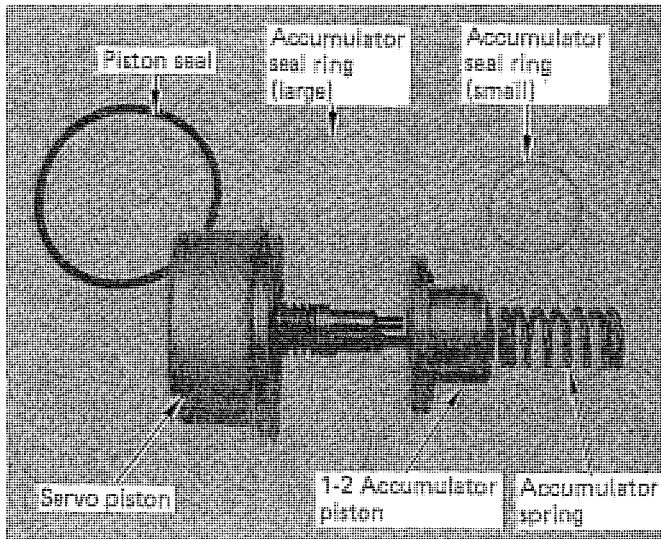

FIGURE 50
STEP 22. Set the transmission on the bench valve body surface up. Install new metal seal rings on the 1-2 accumulator piston if it originally had metal rings. (See Fig. 50) Do not remove teflon seals. Install new seal onto rear servo piston. Lubricate accumulator piston and install into rear servo piston. Install accumulator spring into piston.